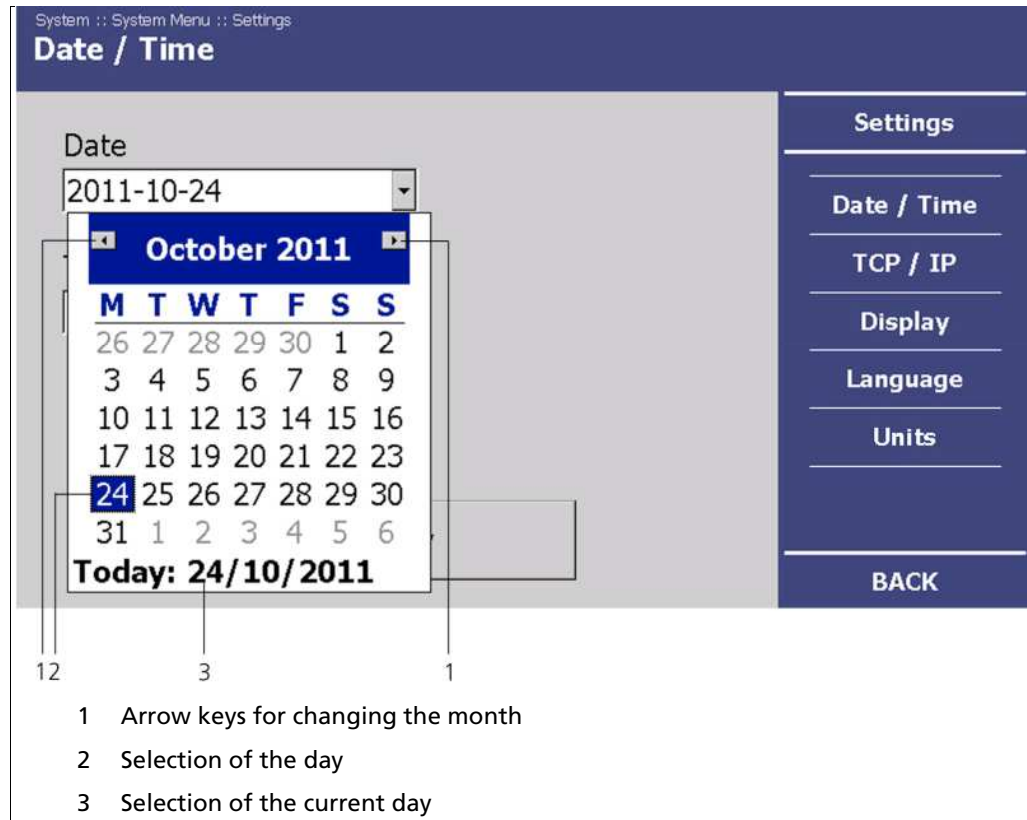

Fig. 25 System menu, Settings - Set Date
3. Set the month (Fig. 25, Pos. 1) by clicking on the arrow keys.
4. Set the day (Fig. 25, Pos. 2) by clicking on a number in the calendar. Alternatively, you can also set the current day by clicking on "Today" (Fig. 25, Pos. 3).
- ⇒ The date set is displayed (Fig. 25, Pos. 3).